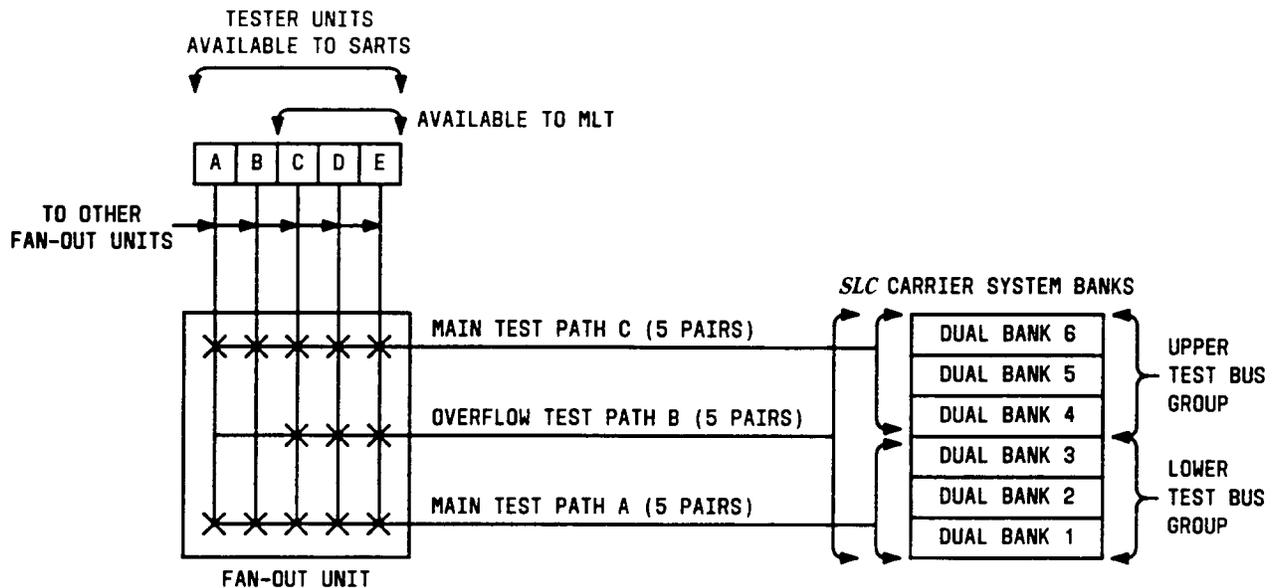

Figure 17 — XTC Fanout Unit (AUB66) Crosspoint Connections
- Connects *SLC Series 5* carrier systems FPC or FPD, equipped with AUB5 and AUB25 CTUs at the COT and RT, respectively, to the XTUC tester units. A matrix of relay crosspoints in the XFOU permits connections between two groups of three dual banks each and five XTC testers (Figure 17). Two of the five testers have first priority for SARTS testing. The other three testers are available for both MLT and SARTS testing. The assignment of tester units to fanout units is given in Table K. The reverse, the assignment of fanout units to tester units is given in Table L. Each crosspoint connects five balanced pairs between the *SLC Series 5* carrier system and the XTUC. Of the five balanced pairs, one pair connects 333.3-Hz/64-kHz composite clock and the other four provide full splitting 4-wire access to the *SLC Series 5* carrier system.